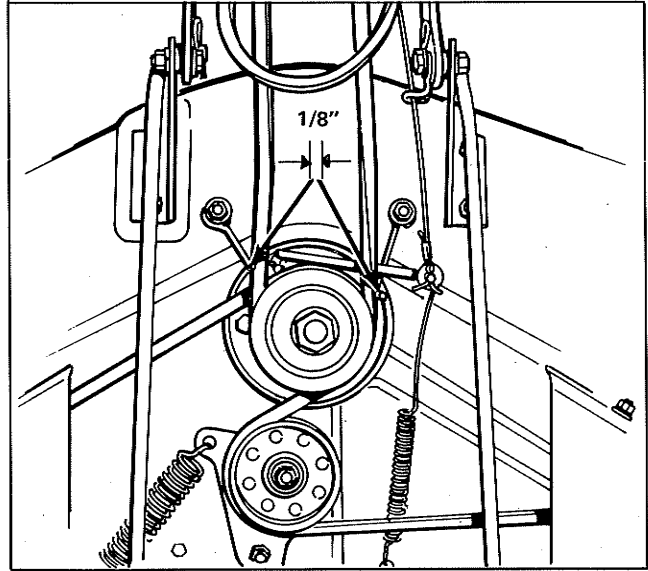

Figure 29. Arbor Belt Stop Position
6. Check the positioning of the two front belt stops. Both belt stops should be $1/8$ inch (3 mm) from the drive belt (figure 29).